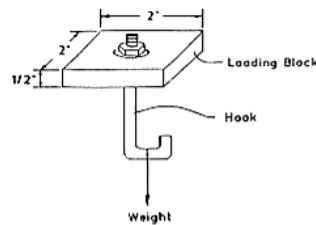
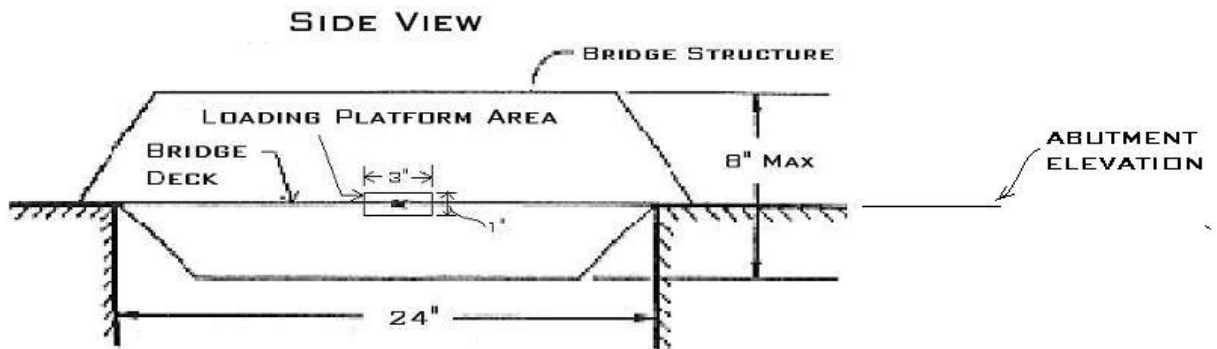

Figure 1
Figure 2
1. Bridges must provide for a 2 inch by 2 inch by 1/2-inch (2" x 2" x 1/2") plywood block (Figure 1) to be placed in the loading platform area shown in Figure 2. Note that the loading area is ± 0.5 inches vertically from the elevation of the abutments and is at the center of the span. This plywood block will serve to transfer the testing load to the rest of the bridge.